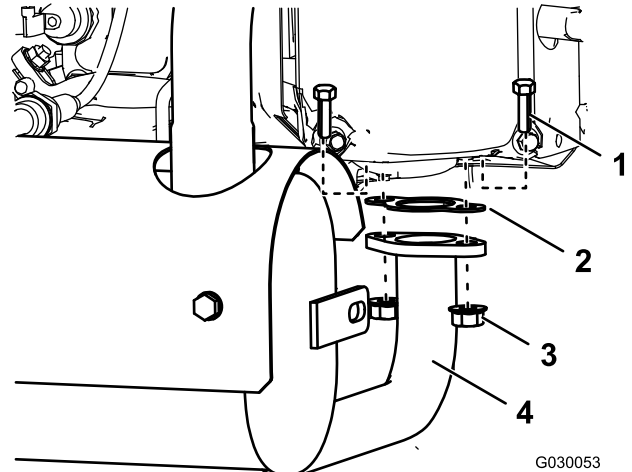

Figure 6
3. Remove the muffler (Figure 6).
1. Install the new muffler and 2 new gaskets to the engine using the nuts (M8) and bolts (M8) that you removed from the previous muffler (see Figure 6).